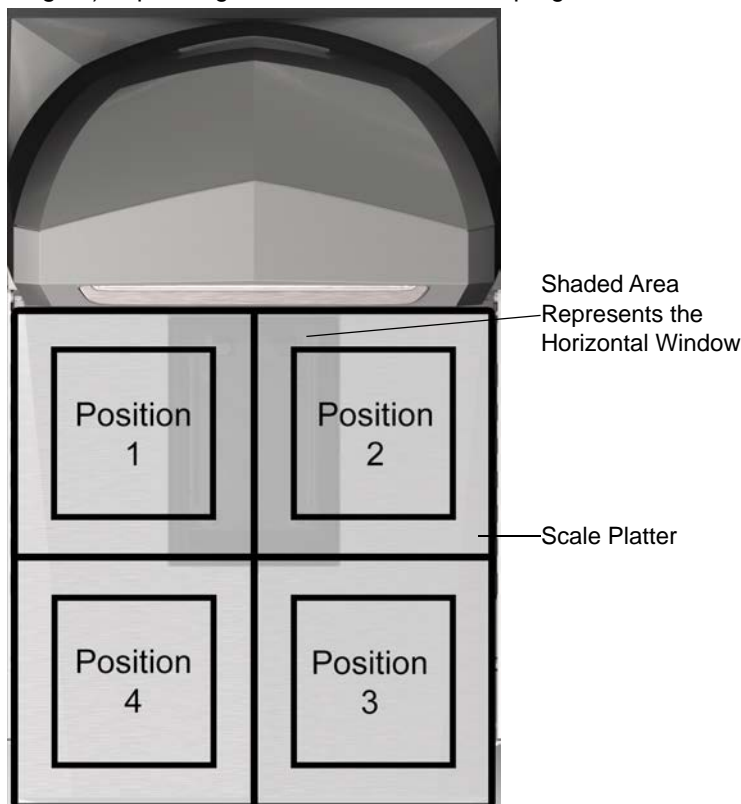

Figure 4-6 Weight Positions on the Scale Platter
| Shift Test (see Figure 4-6) | | | | |
The weight checked at each position on the scale, shown in Figure 4-6, represent halfway between the center of the platter and corner. Use a stack configuration of weights if needed (i.e., (2) 5.00 lb weights, or (2) 2.500 kg weights) depending on the units of measure programmed.